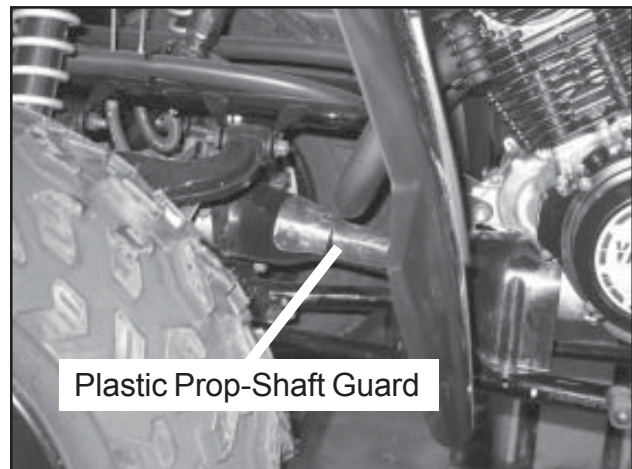

Figure 1 Plastic Prop-Shaft Guard
1. Remove the front plastic prop-shaft guard, **Figure 1**. There are three bolts securing the guard into place, two on the differential and one near the engine. Set guard and hardware aside for later use.